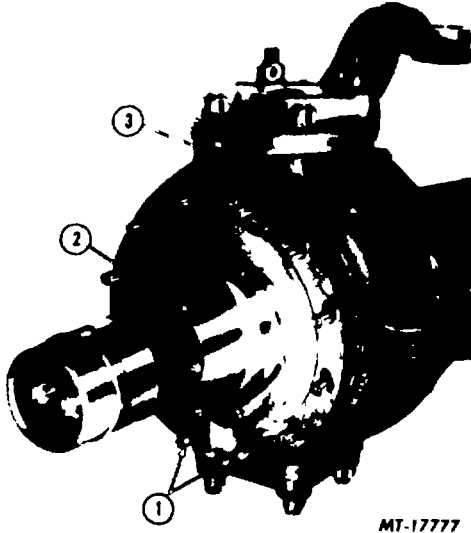

Fig. 1. Removing Spindle
1. Slide spindle off Trunnion Housing Studs, (retaining nuts removed when disassembling brake group). See Fig. 1.